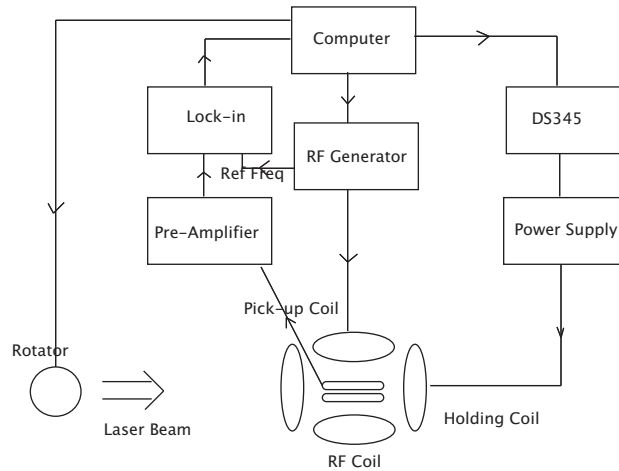

Figure 1: Circuit of Spin-flip
1. Check the circuit of Spin-Reversal. See Figure 1